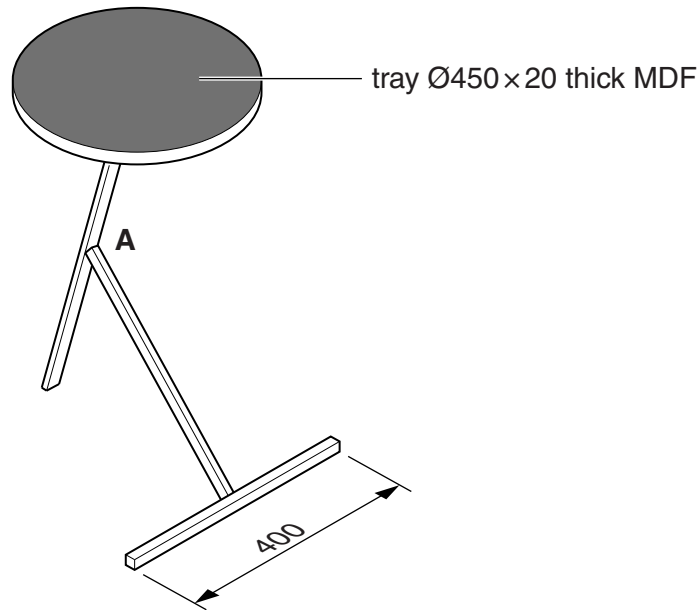

Fig. 12
- 12 Fig. 12 shows a tray table.